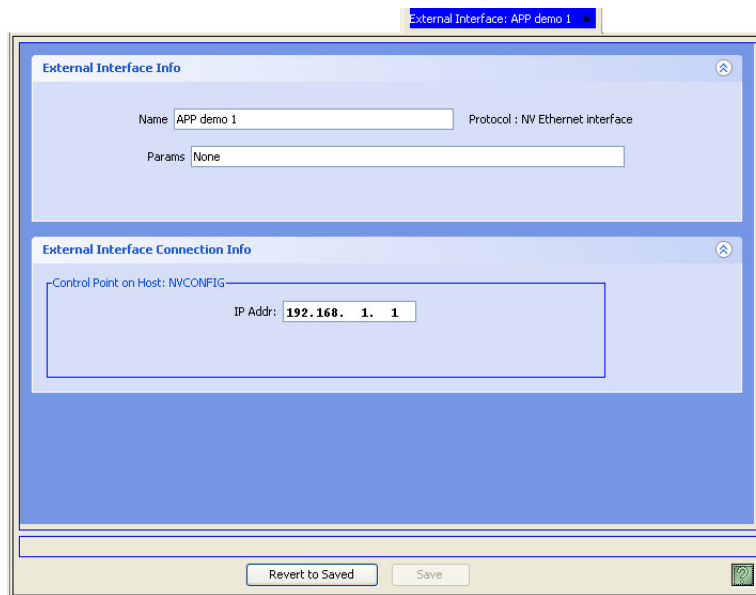

Figure 14-13. External Interface Details Page (Example for Ethernet Protocol)
- 3 Click anywhere in the row listing the external interface being updated and click Edit Selected External Interfaces. The 'External Interface Details' page appears, as shown in Figure 14-13.